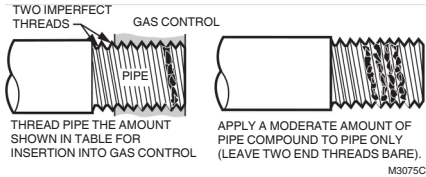

Fig. 5. Use moderate amount of pipe compound.
3. Thread pipe the amount shown in Table5 for insertion into the gas control. Do not thread pipe too far. Valve distortion or malfunction can result if the pipe is inserted too deeply into the gas control. See Fig. 5.